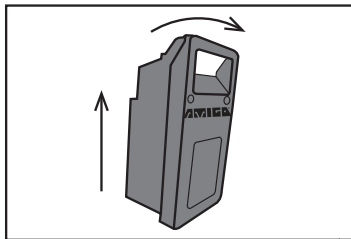

Figure 5
3. Lift battery and tilt forward to remove (Figure 5).